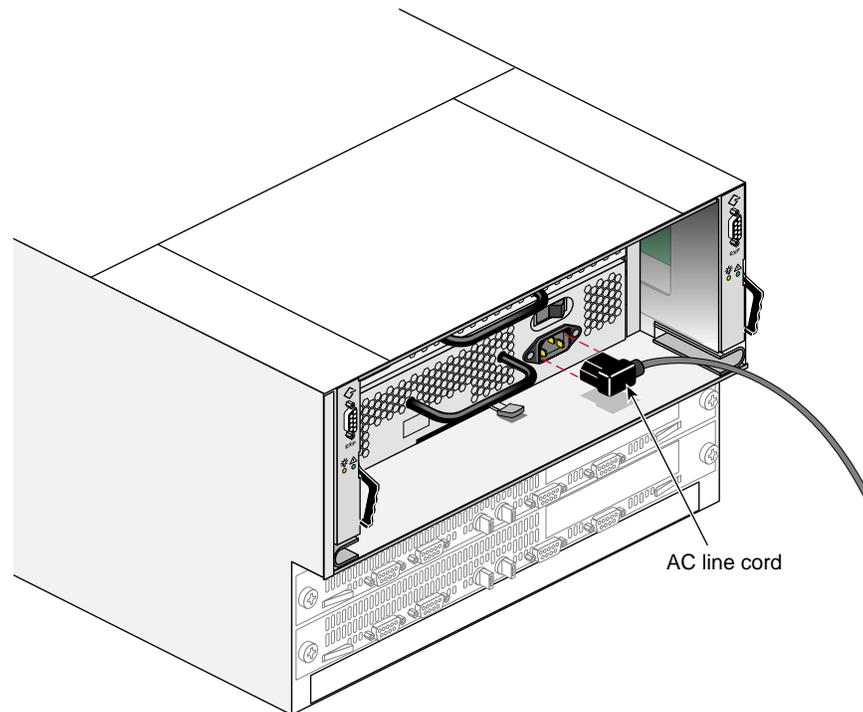

Figure 4-8 Power Supply Power Cord
5. Unplug the AC line cord from the faulty power supply (see Figure 4-8).
4. Plug the AC line cord into the new power supply, as shown in Figure 4-8.